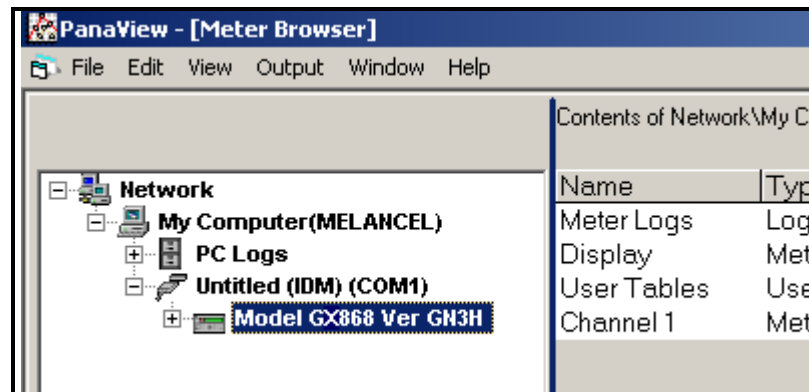

Figure 23: Updated Network Tree
If the initialization is successful, the Meter Browser shows a listing similar to Figure 23 below.
1. Highlight the meter (as shown in Figure 23 on page 102).